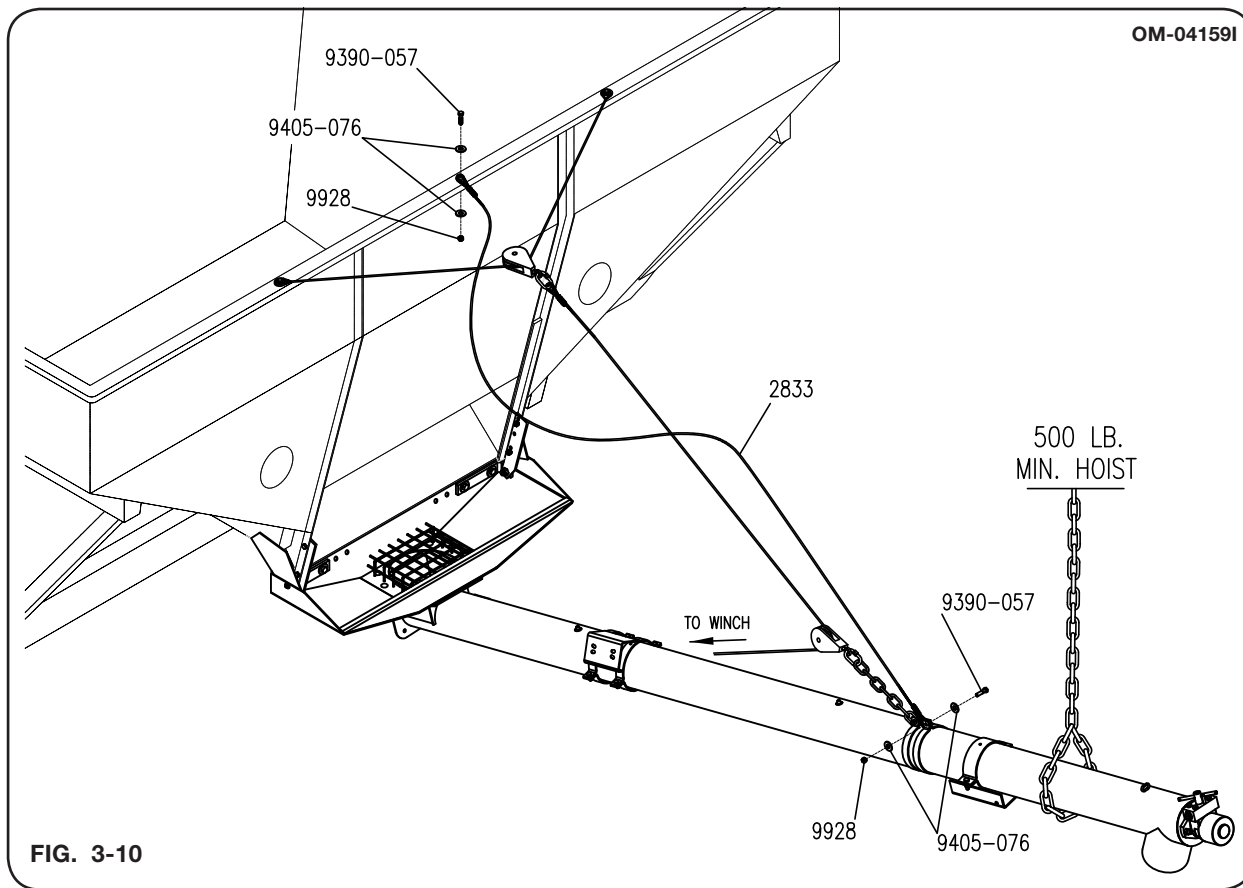

FIG. 3-10
12. Tie cable to winch by the following instructions. Refer to FIG. 3-10.
17. Secure second quick link (91514) to pulley (101410) and chain (2829). Secure opposite end of chain to first strap on auger tube using hardware provided, 3/8"-16 x 1 1/2" capscrew (9390-057), two 3/8" flat washers (9405-076), and 3/8"-16 locknut (9928), FIG. 3-10.